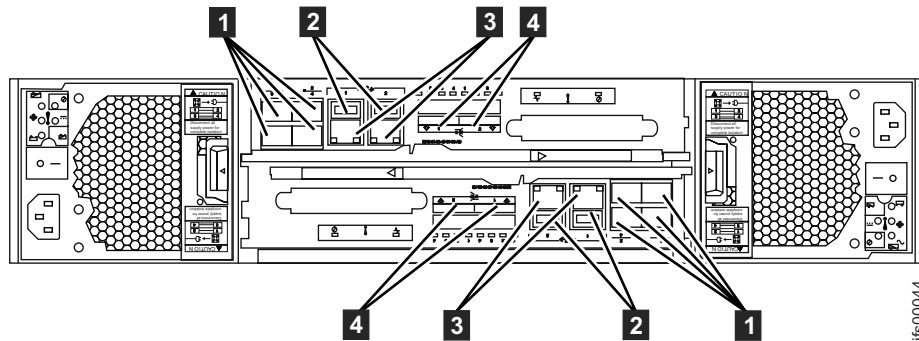
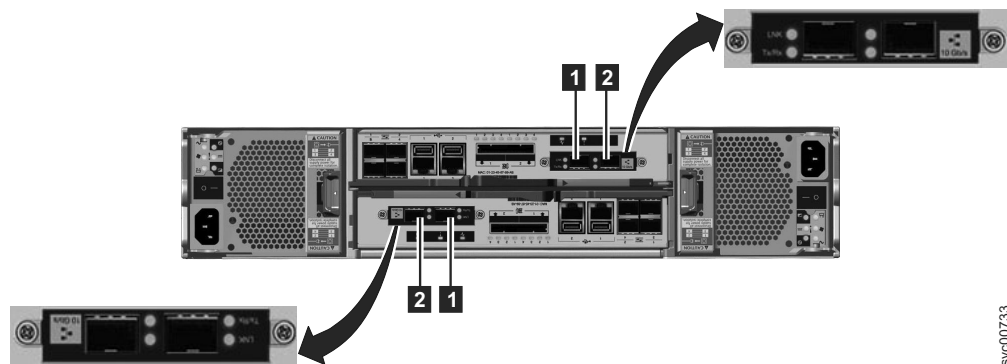
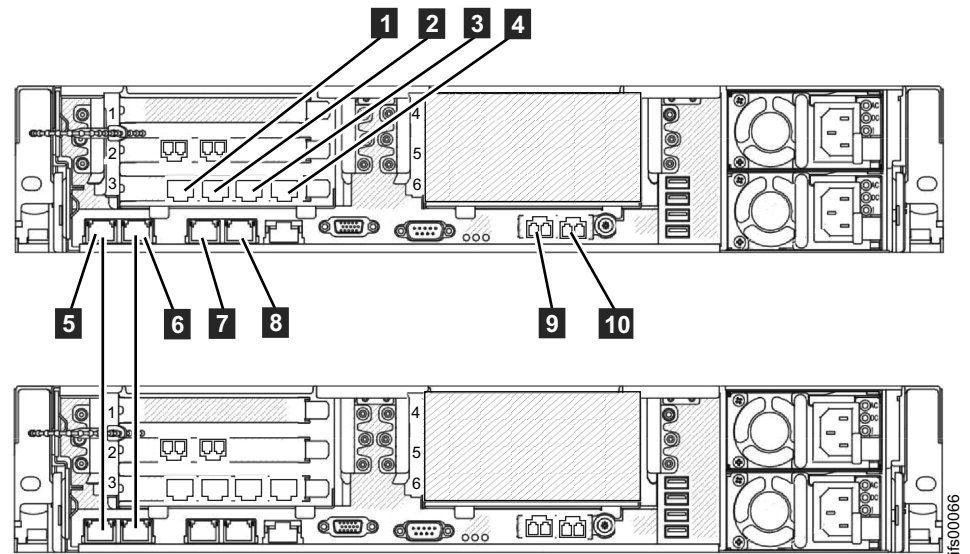

Figure 43. Control enclosure Ethernet network connections.
Figure 44. 10 Gbps Ethernet ports on the rear of the Storwize V7000 enclosure
Figure 45. File module Ethernet connections.
This task assumes that your initial planning has determined where the Ethernet cables are to be located. The Storwize V7000 Unified control enclosure requires at least one and a maximum of two 1 Gbps Ethernet connections to each node canister. Refer to Figure 43 on page 82, Figure 44 on page 82, and Table 39 on page 83. For the file modules, the first two 1 Gbps Ethernet ports labelled **5** and **6** in Figure 45 on page 83 are used for internal communications between the file modules. The third and fourth 1 Gbps Ethernet ports are used for management
If you encounter that situation, change the service IP addresses on the new nodes before connecting the Ethernet cables. For details, see Figure 45 on page 83 or see the *Storwize V7000 Unified Problem Determination Guide* PDF on the DVD for further information about setting service IP addresses using a USB flash drive.
- Connect an Ethernet cable from Ethernet port 1 on the first file module to the first Ethernet port on the second file module. Refer to Figure 45 on page 83 for port locations.
You have two 10 Gbps Fibre Ethernet ports available for host connections from each file module. The ports are on the PCI card located in slot 4. Connect your network cables to the Ethernet ports in these slots as applicable. Refer to Figure 45 on page 83.